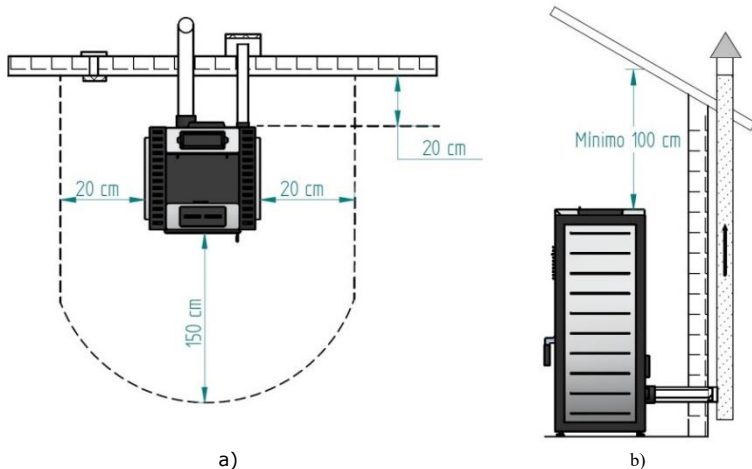

Figure 9 - Minimum distances from all surfaces: a) upper view of the unit's installation; b) side view of the unit's installation
The minimum distance between the free-standing pellet fire unit and particularly flammable surfaces is specified in Figure 9. The top of the unit must be at least 100cm separated from the ceiling, especially in rooms with ceilings consisting of flammable materials. The base supporting the unit cannot be made of combustible material (e.g., carpet), so make sure you use an adequate protection.
- As indicated in Figure 9, the exhaust pipe must be assembled so as to allow cleaning and maintenance of the pipe by inserting inspection points.